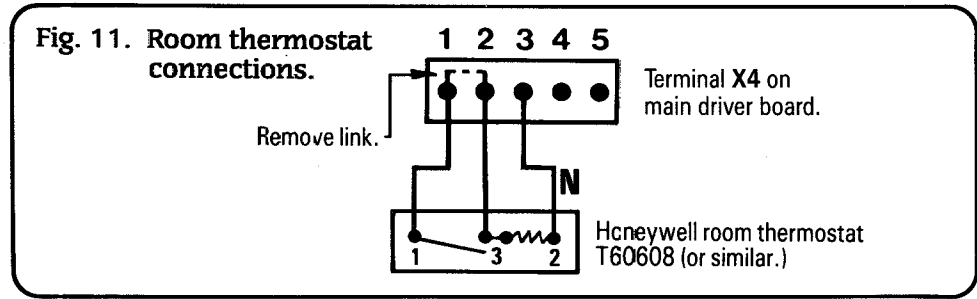

Fig. 11. Room thermostat connections.
10.7 If a room and/or frost thermostat is to be fitted refer to Figs. 11 and 12. The thermostats must be suitable for use on mains voltage.